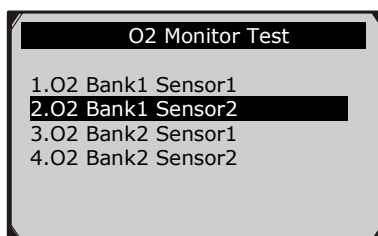

Figure 5.23
- 3) Use the **UP/DOWN** scroll button to select **O2** sensor from **O2 Monitor Test** menu and press **OK** button. (Figure 5.23)